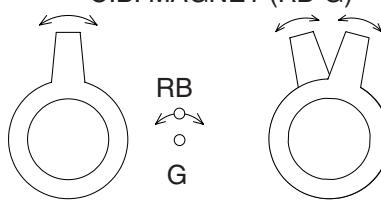

**Fig. 6**
4. Loosen the screw on the Deflection Yoke Clamper and pull the Deflection Yoke back away from the screen. (See Fig. 6)